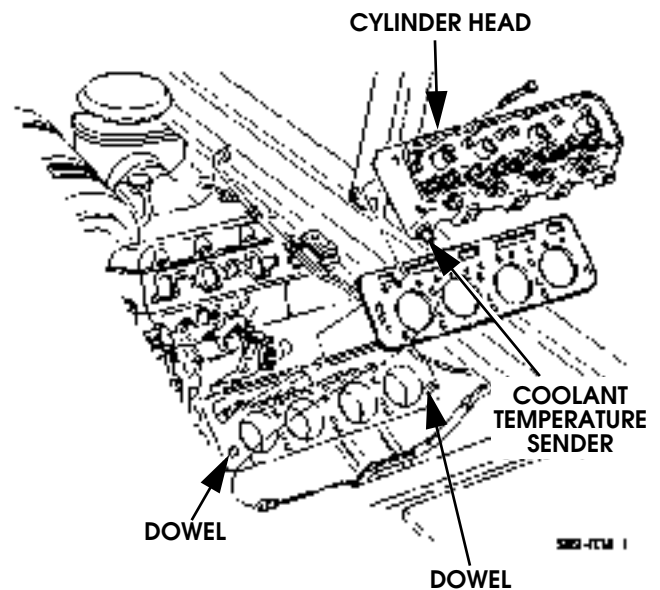

Figure 2-41: Cylinder Head and Gasket Removal/Installation
19. Remove cylinder head (Figure 2-41) with aid of helper, or use chain hoist, portable hoist, or similar device to lift and remove cylinder head.